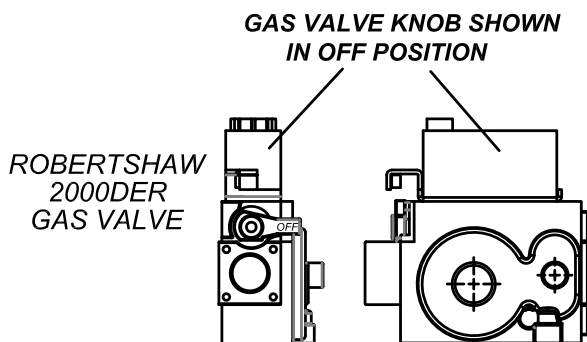

Fig. 17
5. Depress knob on gas valve; knob will snap to OFF. (See Figure 17)
6. Wait five (5) minutes to clear out any gas. Then smell for gas, including near the floor. If you then smell gas, **STOP! FOLLOW "B"** in the safety information above. If you do not smell gas, go to the next step.